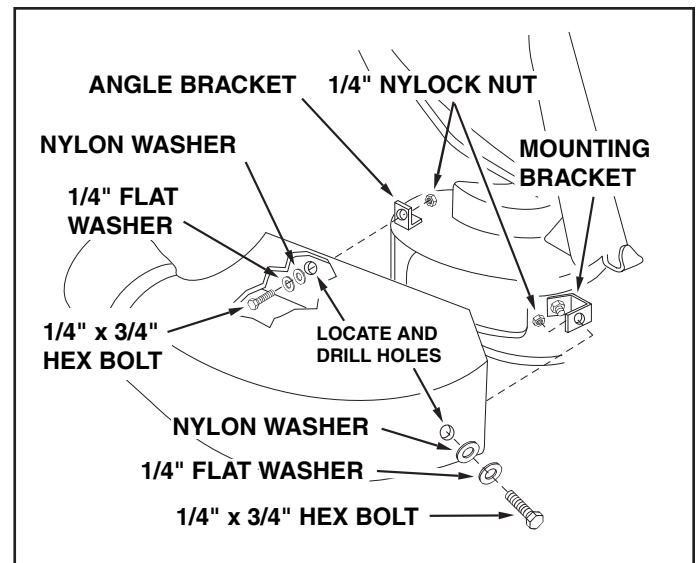

FIGURE 30
2. Fasten the angle bracket and the mounting bracket to the mower deck as shown in figure 30. Use two 5/16" x 3/4" carriage bolts, 5/16" flat washers and 5/16" lock nuts. The bolt heads go on inside of mower deck.
3. Drill two 5/16" diameter holes in the deck adapter that will align with the holes in the angle bracket and the mounting bracket. Assemble the deck adapter to both brackets using two 1/4" x 3/4" hex bolts, 1/4" flat washers, nylon washers and 1/4" nylock nuts. See figure 30.